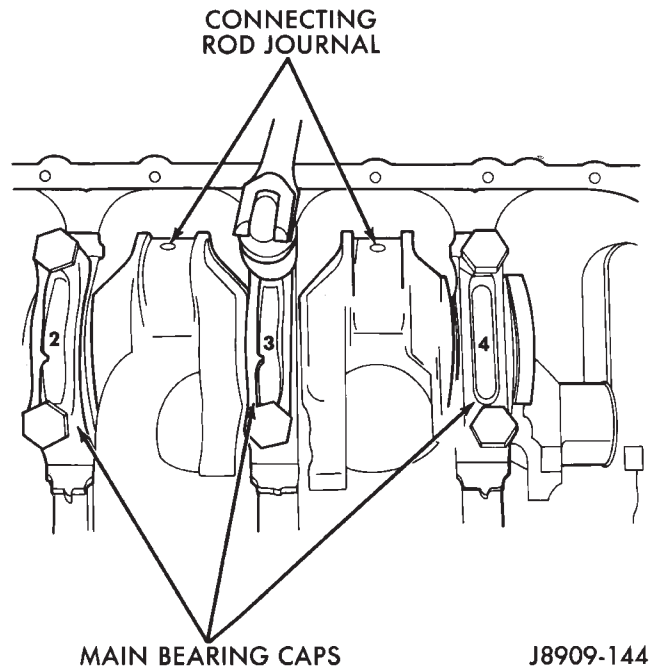

Fig. 54 Removing Main Bearing Caps and Lower Inserts
- (1) Disconnect negative cable from battery.
- (2) Remove the spark plugs.
- (3) Raise the vehicle.
- (4) Remove the oil pan and oil pump.
(5) Remove only one main bearing cap and lower insert at a time (Fig. 54).